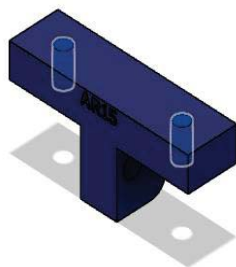

Figure 0-6
- 2 holes at the top of the AR15 pivot block (ensure this part looks like the letter T when installing in the top). Refer to Figure 0-6